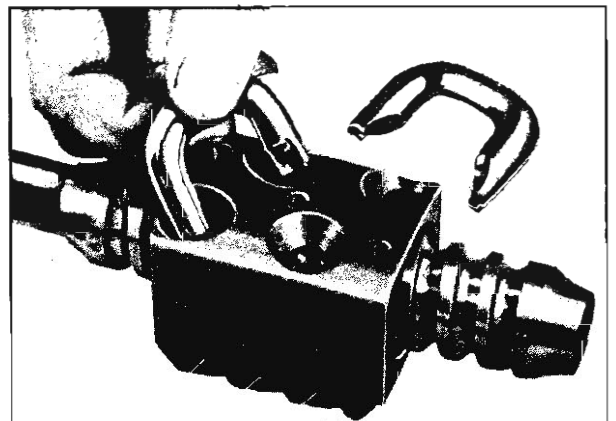

Fig. 52—Installing Ball Guides
- Push the guide into the guide holes of the nut (fig. 52). This completes one circuit of balls. If the guide does not push all the way down easily, tap it lightly into place with the wooden handle of a screwdriver.